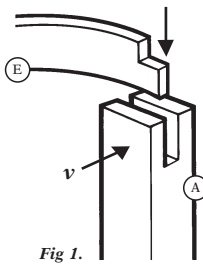

Fig 1.
3. Site two of the Posts (A) in the holes but do not fix yet.
4. Take one of the Curved Beams (E) and fix from the inside of the circle into the post (as Fig.1) using screws (v).